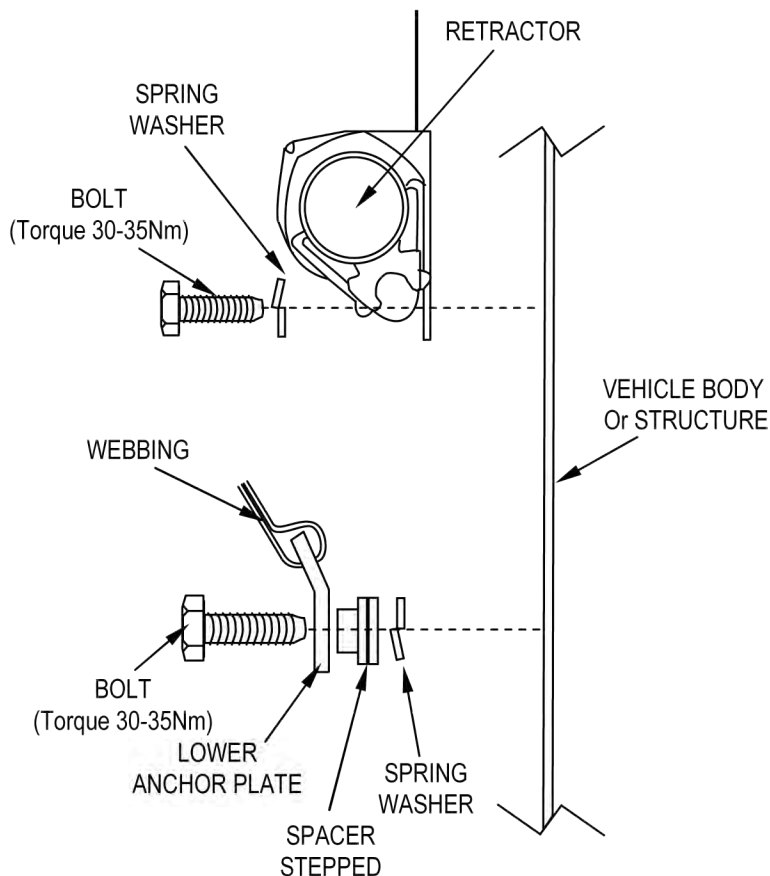

FIGURE 2
- Attach the retractor as shown in Fig. 2. It designed to be mounted externally and not inside a cavity
- The lower anchor plate is attached to a separate Mounting point as shown in Fig. 2.